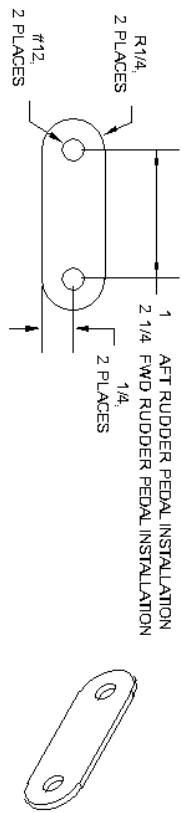

FIGURE 1: MAKING THE RUDDER CABLE LINKS
Step 1: Make four F-10104 Rudder Cable Links from 1/2 inch wide, .050 thick 4130 steel. The overall length will vary depending on the position that the rudder pedals were installed in. See Figure 1.